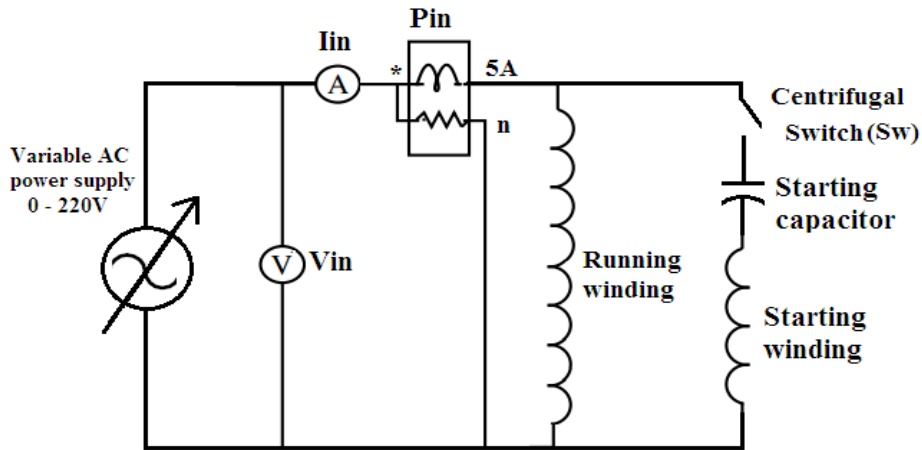

Fig. 3: Laboratory connection of capacitor-start motor
1. Connect the circuit shown in the Fig. 3 below.